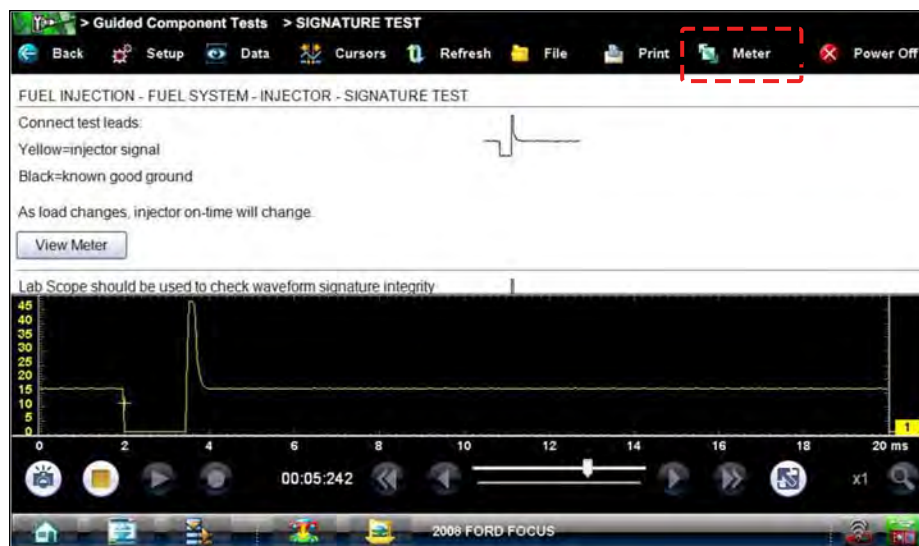

Figure 7-10 Sample view meter window
- **View Meter**—opens a live meter set up to perform the test in the lower portion of the screen (Figure 7-10). Once the meter view is open, the Guided Component Test toolbar at the top of the screen is replaced by the Scope Multimeter toolbar, which allows you to make adjustments to the settings. See Scope Multimeter Toolbar on page 125 for details.
A Meter icon, which is only available in the Guided Component Test view meter mode, appears on the upper toolbar (Figure 7-10).
1. With View Meter active (Figure 7-10), select the **Meter** icon on the toolbar once and the meter expands to fill the entire screen.
3. Select the **Meter** icon a third time to close the separate window and return to the standard meter view as shown in Figure 7-10.